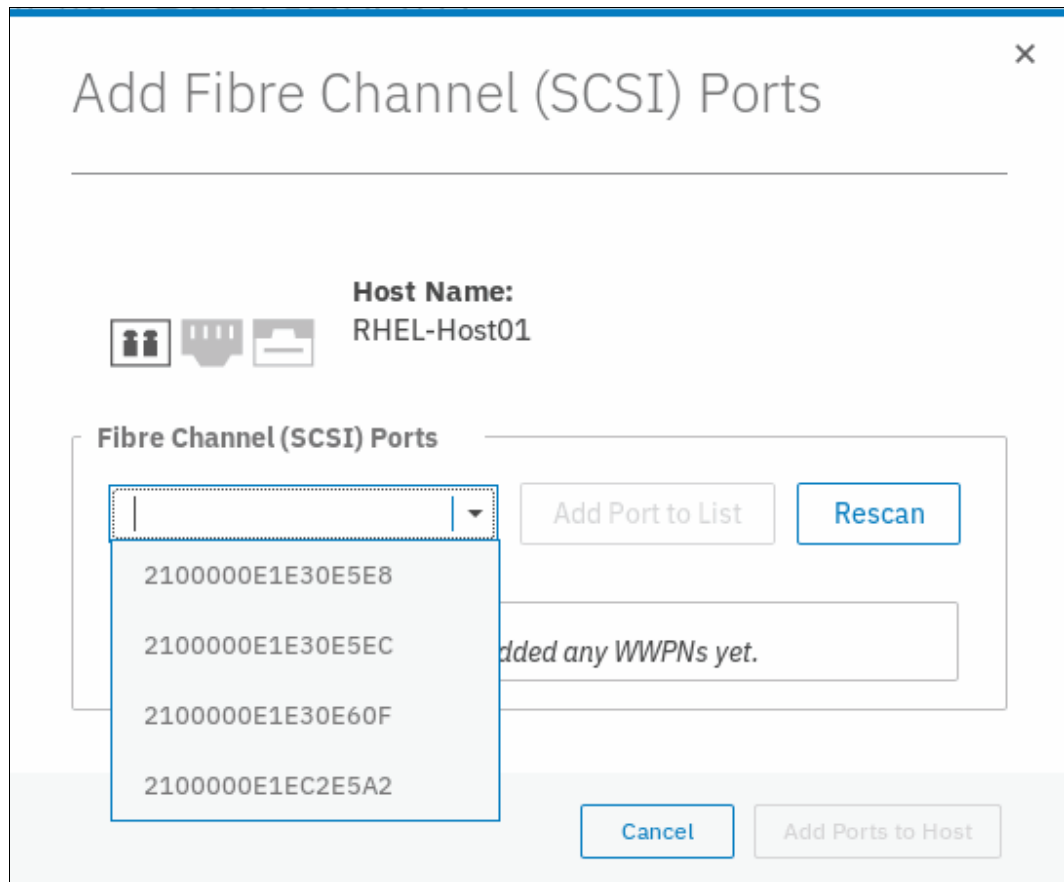

Figure 8-27 Select WWPNs to be added
2. Select the type of port that you want to add. In this example, we chose Fibre Channel port. Then, you are directed to a drop-down list that includes the available connected WWPN. Select the wanted WWPN to be added to the host, as shown in Figure 8-27.